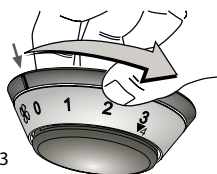

Fig. 3
- Turn the top section of the remote control so the indicator is at the required speed level, as shown in figure 3.